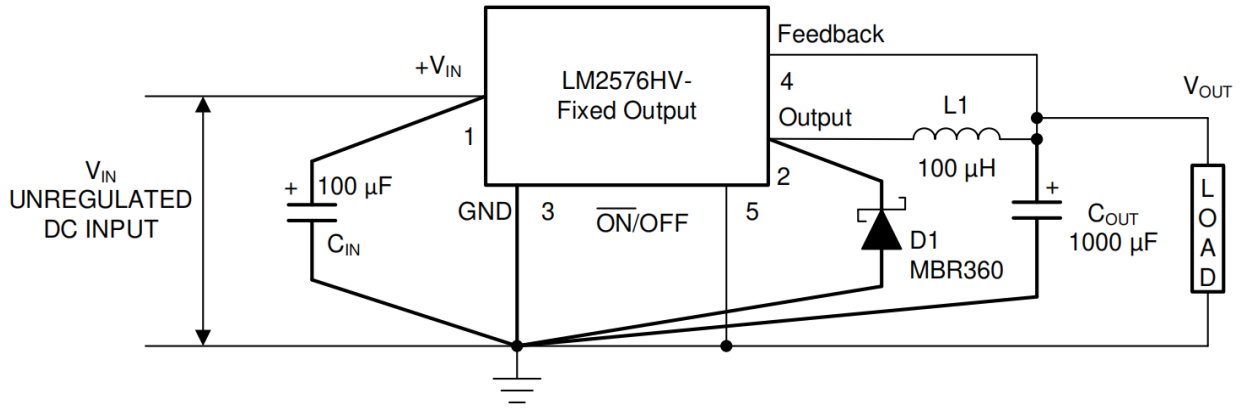
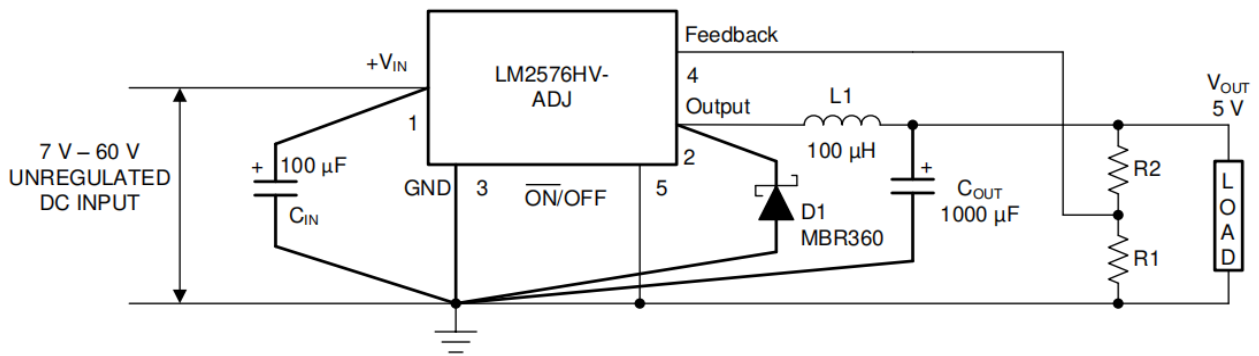

图1
图2
(1) External components such as the catch diode, inductor, input and output capacitors can affect switching regulator system performance. When the LM2576/LM2576HV is used as shown in 图 1 and 图 2.
SYSTEM PARAMETERS TEST CIRCUIT 图1 and图2
(1) External components such as the catch diode, inductor, input and output capacitors can affect switching regulator system performance. When the LM2576/LM2576HV is used as shown in 图1 and 图2
(1) External components such as the catch diode, inductor, input and output capacitors can affect switching regulator system performance. When the LM2576/LM2576HV is used as shown in 图1 and 图2.
(1) All limits specified at room temperature (25 ° C) unless otherwise noted. All room temperature limits are 100% production tested. All limits at temperature extremes are specified through correlation using standard Statistical Quality Control (SQC) methods.
(2) External components such as the catch diode, inductor, input and output capacitors can affect switching regulator system performance. When the LM2576/LM2576HV is used as shown in 图 1 and 图 2
(3) Output pin sourcing current. No diode, inductor or capacitor connected to output.
(4) Feedback pin removed from output and connected to 0V.
(5) Feedback pin removed from output and connected to +12 V for the Adjustable, 3.3-V, and 5-V versions, and +25 V for the 12-V and 15- V versions, to force the output transistor OFF.
(6) V_{IN} = 40 V (60 V for high voltage version).
(7) The oscillator frequency reduces to approximately 11 kHz in the event of an output short or an overload which causes the regulated output voltage to drop approximately 40% from the nominal output voltage. This self protection feature lowers the average power dissipation of the IC by lowering the minimum duty cycle from 5% down to approximately 2%.